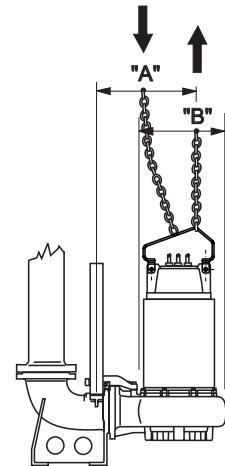

Fig. 2
1.5. - To remove the electric pump from its housing, first disconnect the electric cables from the control panel and operate the lift as indicated on page 25 (Fig. 2). Use a jet of clean water outside and inside the electric pump in order to wash off all residuals of the pumped fluid. Always wear accident-preventing goggles, rubber gauntlets, mask and a waterproof apron when carrying out these operations.